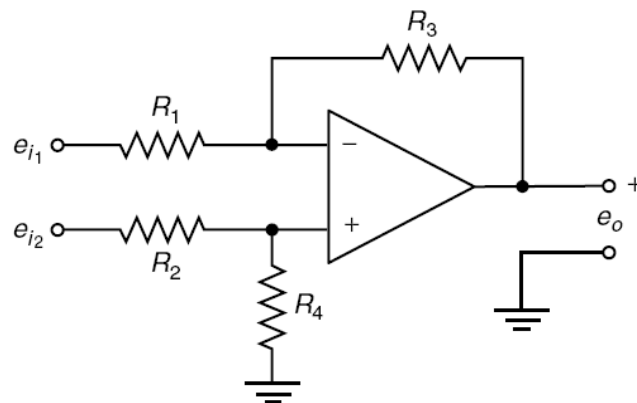

Figure 4
- [c] Figure 4 shows a circuit diagram of a differential amplifier. Derive an expression for the output voltage e_o in terms of the input voltages e_i , where resistance $R_1 = R_2$ and $R_3 = R_4$.